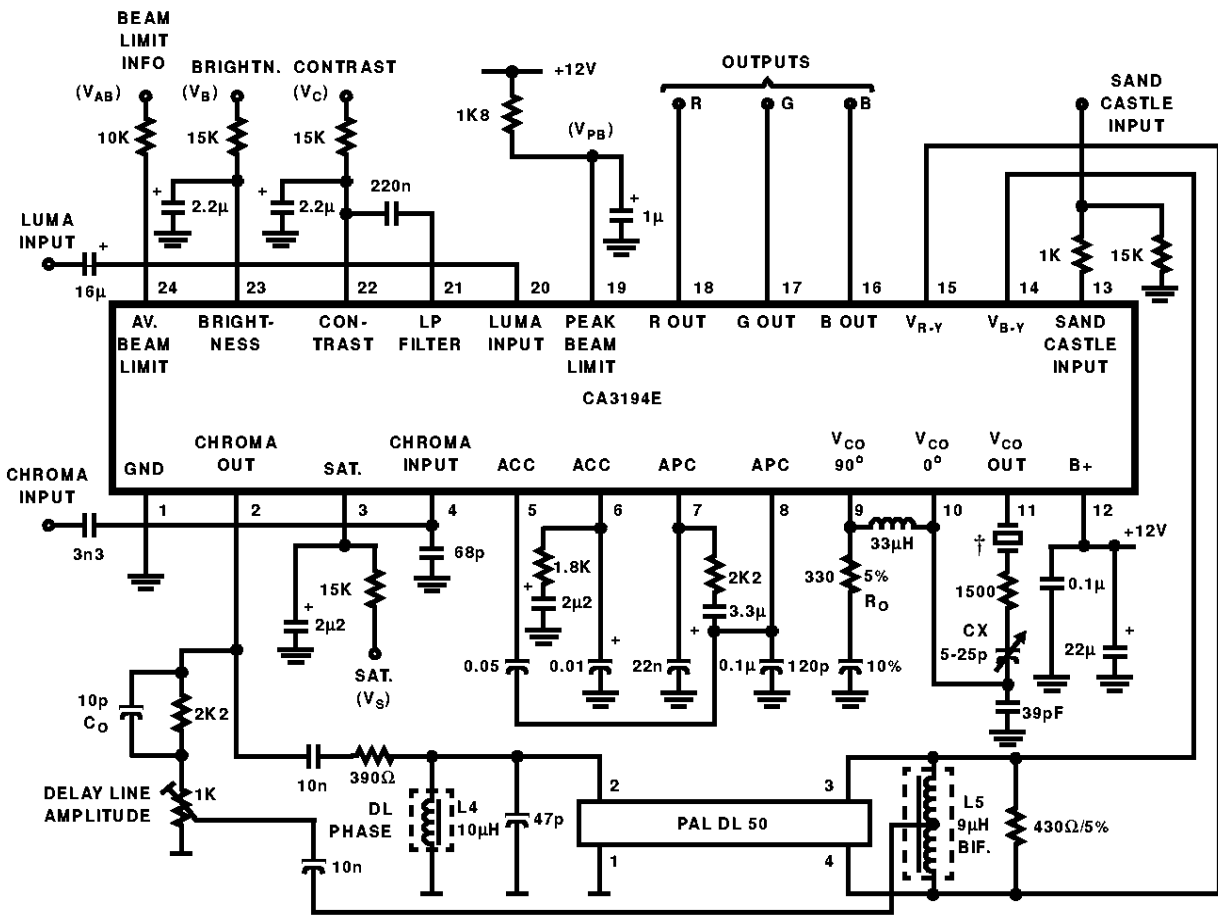

FIGURE 20. APPLICATION CIRCUIT FOR PAL M
**Circuit Description** (See Block Diagram and Figure 20)